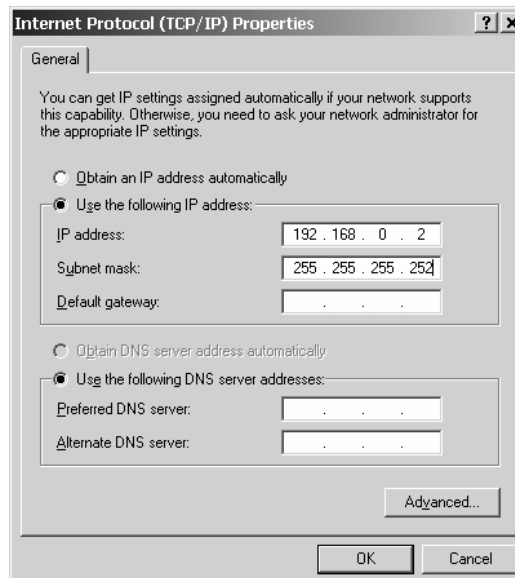

Figure 77: Internet Protocol Properties - Windows 2000
6. Click **Properties**. The Internet Protocol Properties window appears as shown in Figure 77.